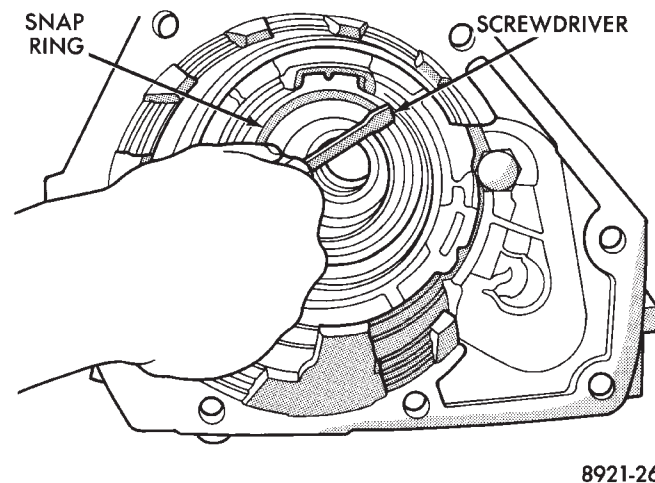

Fig. 64 Installing Governor Support Snap Ring
(16) Install governor support snap ring (Fig. 64).